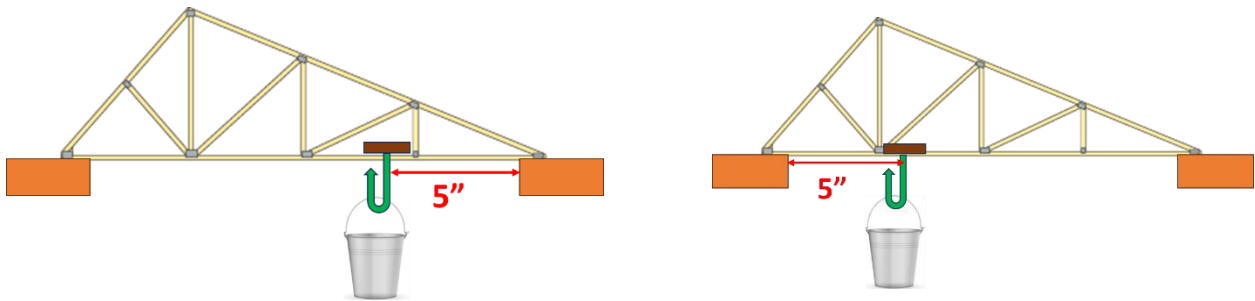

Figure 6: Loading Plat position.
- b. **The loading plate will be positioned 5" (inches) from the support end, not at the center of the bridge,** as illustrated in Figure 6. Students have the flexibility to choose on which side of the bridge to place it.
4. The bridge's load-bearing capacity is evaluated using the configuration outlined in Figure 6. The load testing machine records the maximum load, which is considered the bridge's load capacity, irrespective of when failure occurs.